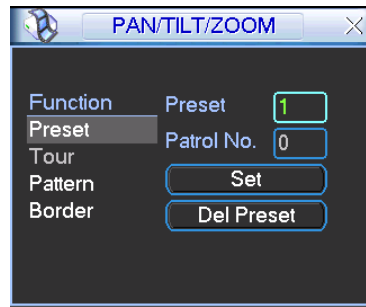
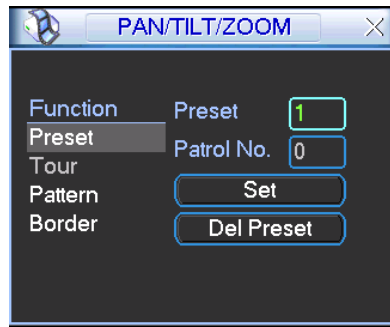

Figure 4-39
Figure 4-41
In Figure 4-36, please click the “set” button. The interface is shown as below. See Figure 4-39. Here you can set the following items:
- The following setups are usually operated in the \_Figure 4-36, Figure 4-39 and Figure 4-40.
In Figure 4-39, click preset button and input preset number. The interface is shown as in Figure 4-41.
In — Figure 4-39, input patrol (tour) number in the No. blank and click patrol button
In Figure 4-39, click pattern button and then click “begin” button. The interface is shown as in Figure 4-43. Then you can go to Figure 4-36 X to modify zoom, focus, and iris.
In — Figure 4-39, input mode value in the No. blank, and click pattern button.